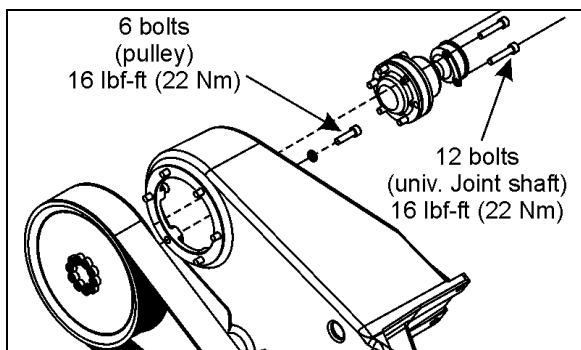

FIGURE 28: TIGHTENING SPECIFICATION 05123A
2. Dismount the drive pulley. Gain access to the 6 mounting bolts from behind the pulley, through the opening in the cast aluminum support (Fig. 28).
3. Unscrew and remove the universal joint shaft mounting bolts (6) at the right angle gearbox.